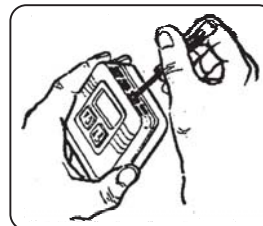
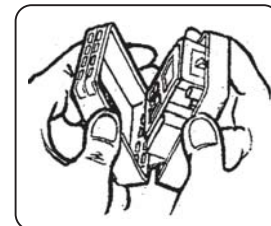

Fig. 2
Fig. 3
- Dismantle the front cover by using a screw driver pressing a hook on the top of the front cover. (see Figure 2). Pull the front cover out with your hand holding on two sides of the cover. (see Figure 3)